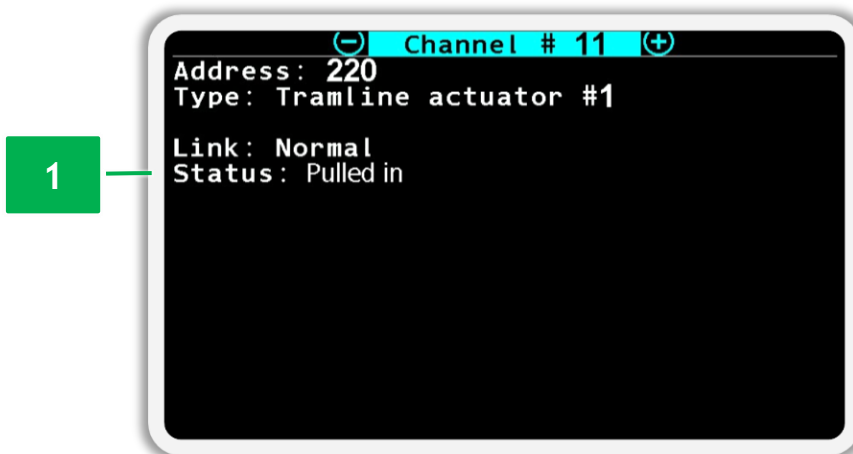

Figure 102 Screen of viewing the state of the tramline actuator
- *Status* - this item displays the current position of the actuator rod “Pulled in” or “Pulled out” (see Figure 102 p.1).